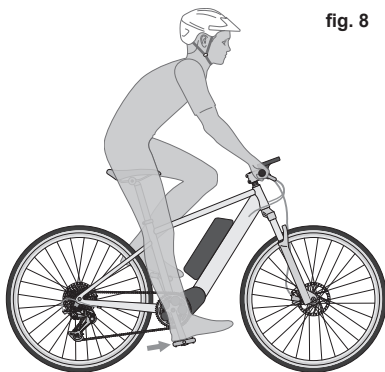

fig. 8
1. **Up and down adjustment.** To check for correct saddle height (**fig. 8**):